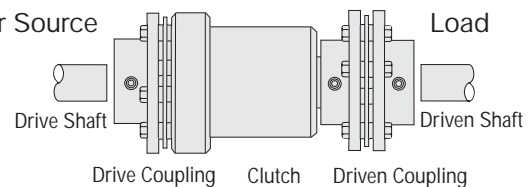

Figure 3
3. Check for proper installation by overrunning (free-wheeling) the clutch by hand. (See Figure 3.)